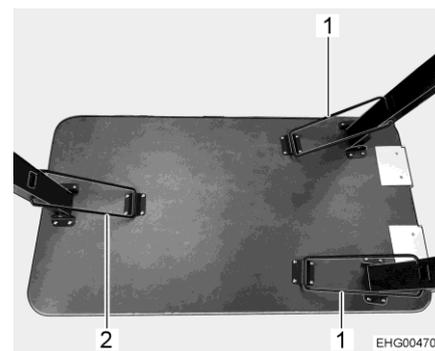

Fig. 13 Table (table legs unfolded)
- Lock the table leg with the bracket (Fig. 13,2).
- Lock all 3 table legs with brackets (Fig. 13,1 and Fig. 13,2).